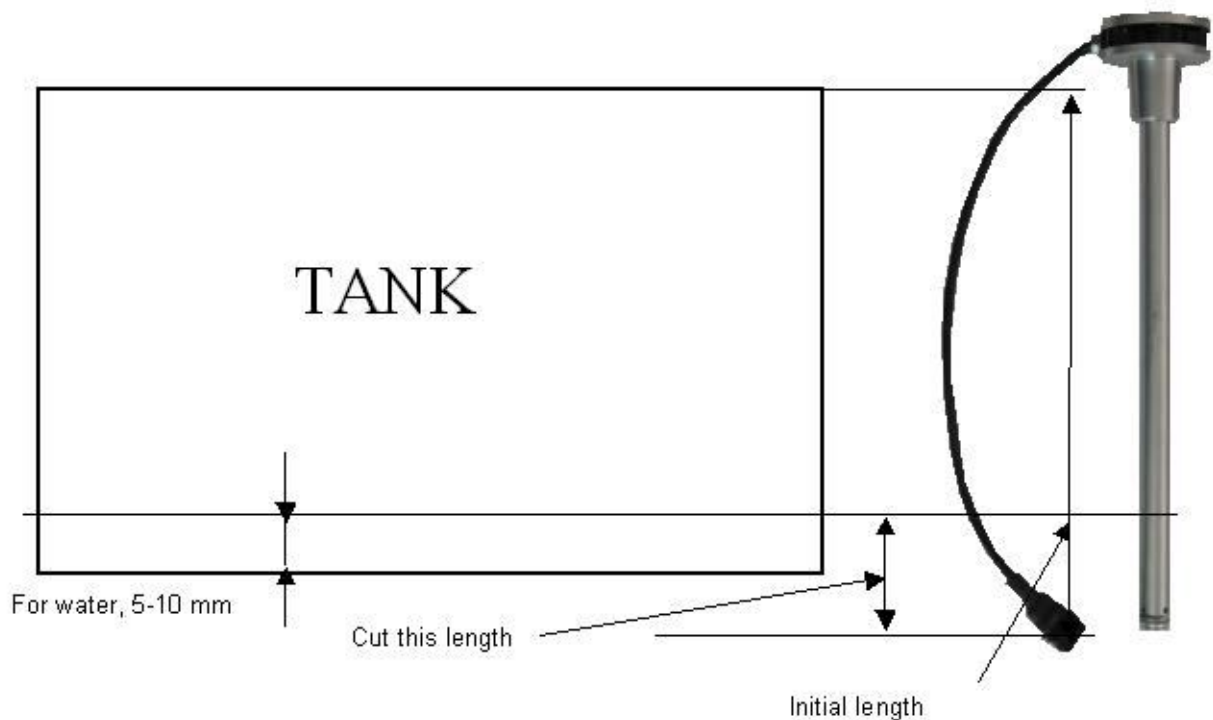

Fig. 5 Sensor cutting
- 2) Cut a FLS to desired length with a hacksaw – see fig. 5. You should leave about 10-20 mm for water on a bottom of the tank. Remove carefully the aluminum rasping between tubes.